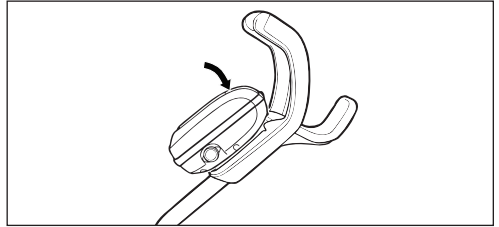

Figure 2. Attach the Control Unit onto Caddy
2. Press control unit onto the caddy hook until it snaps and locks into position. (Figure 2).